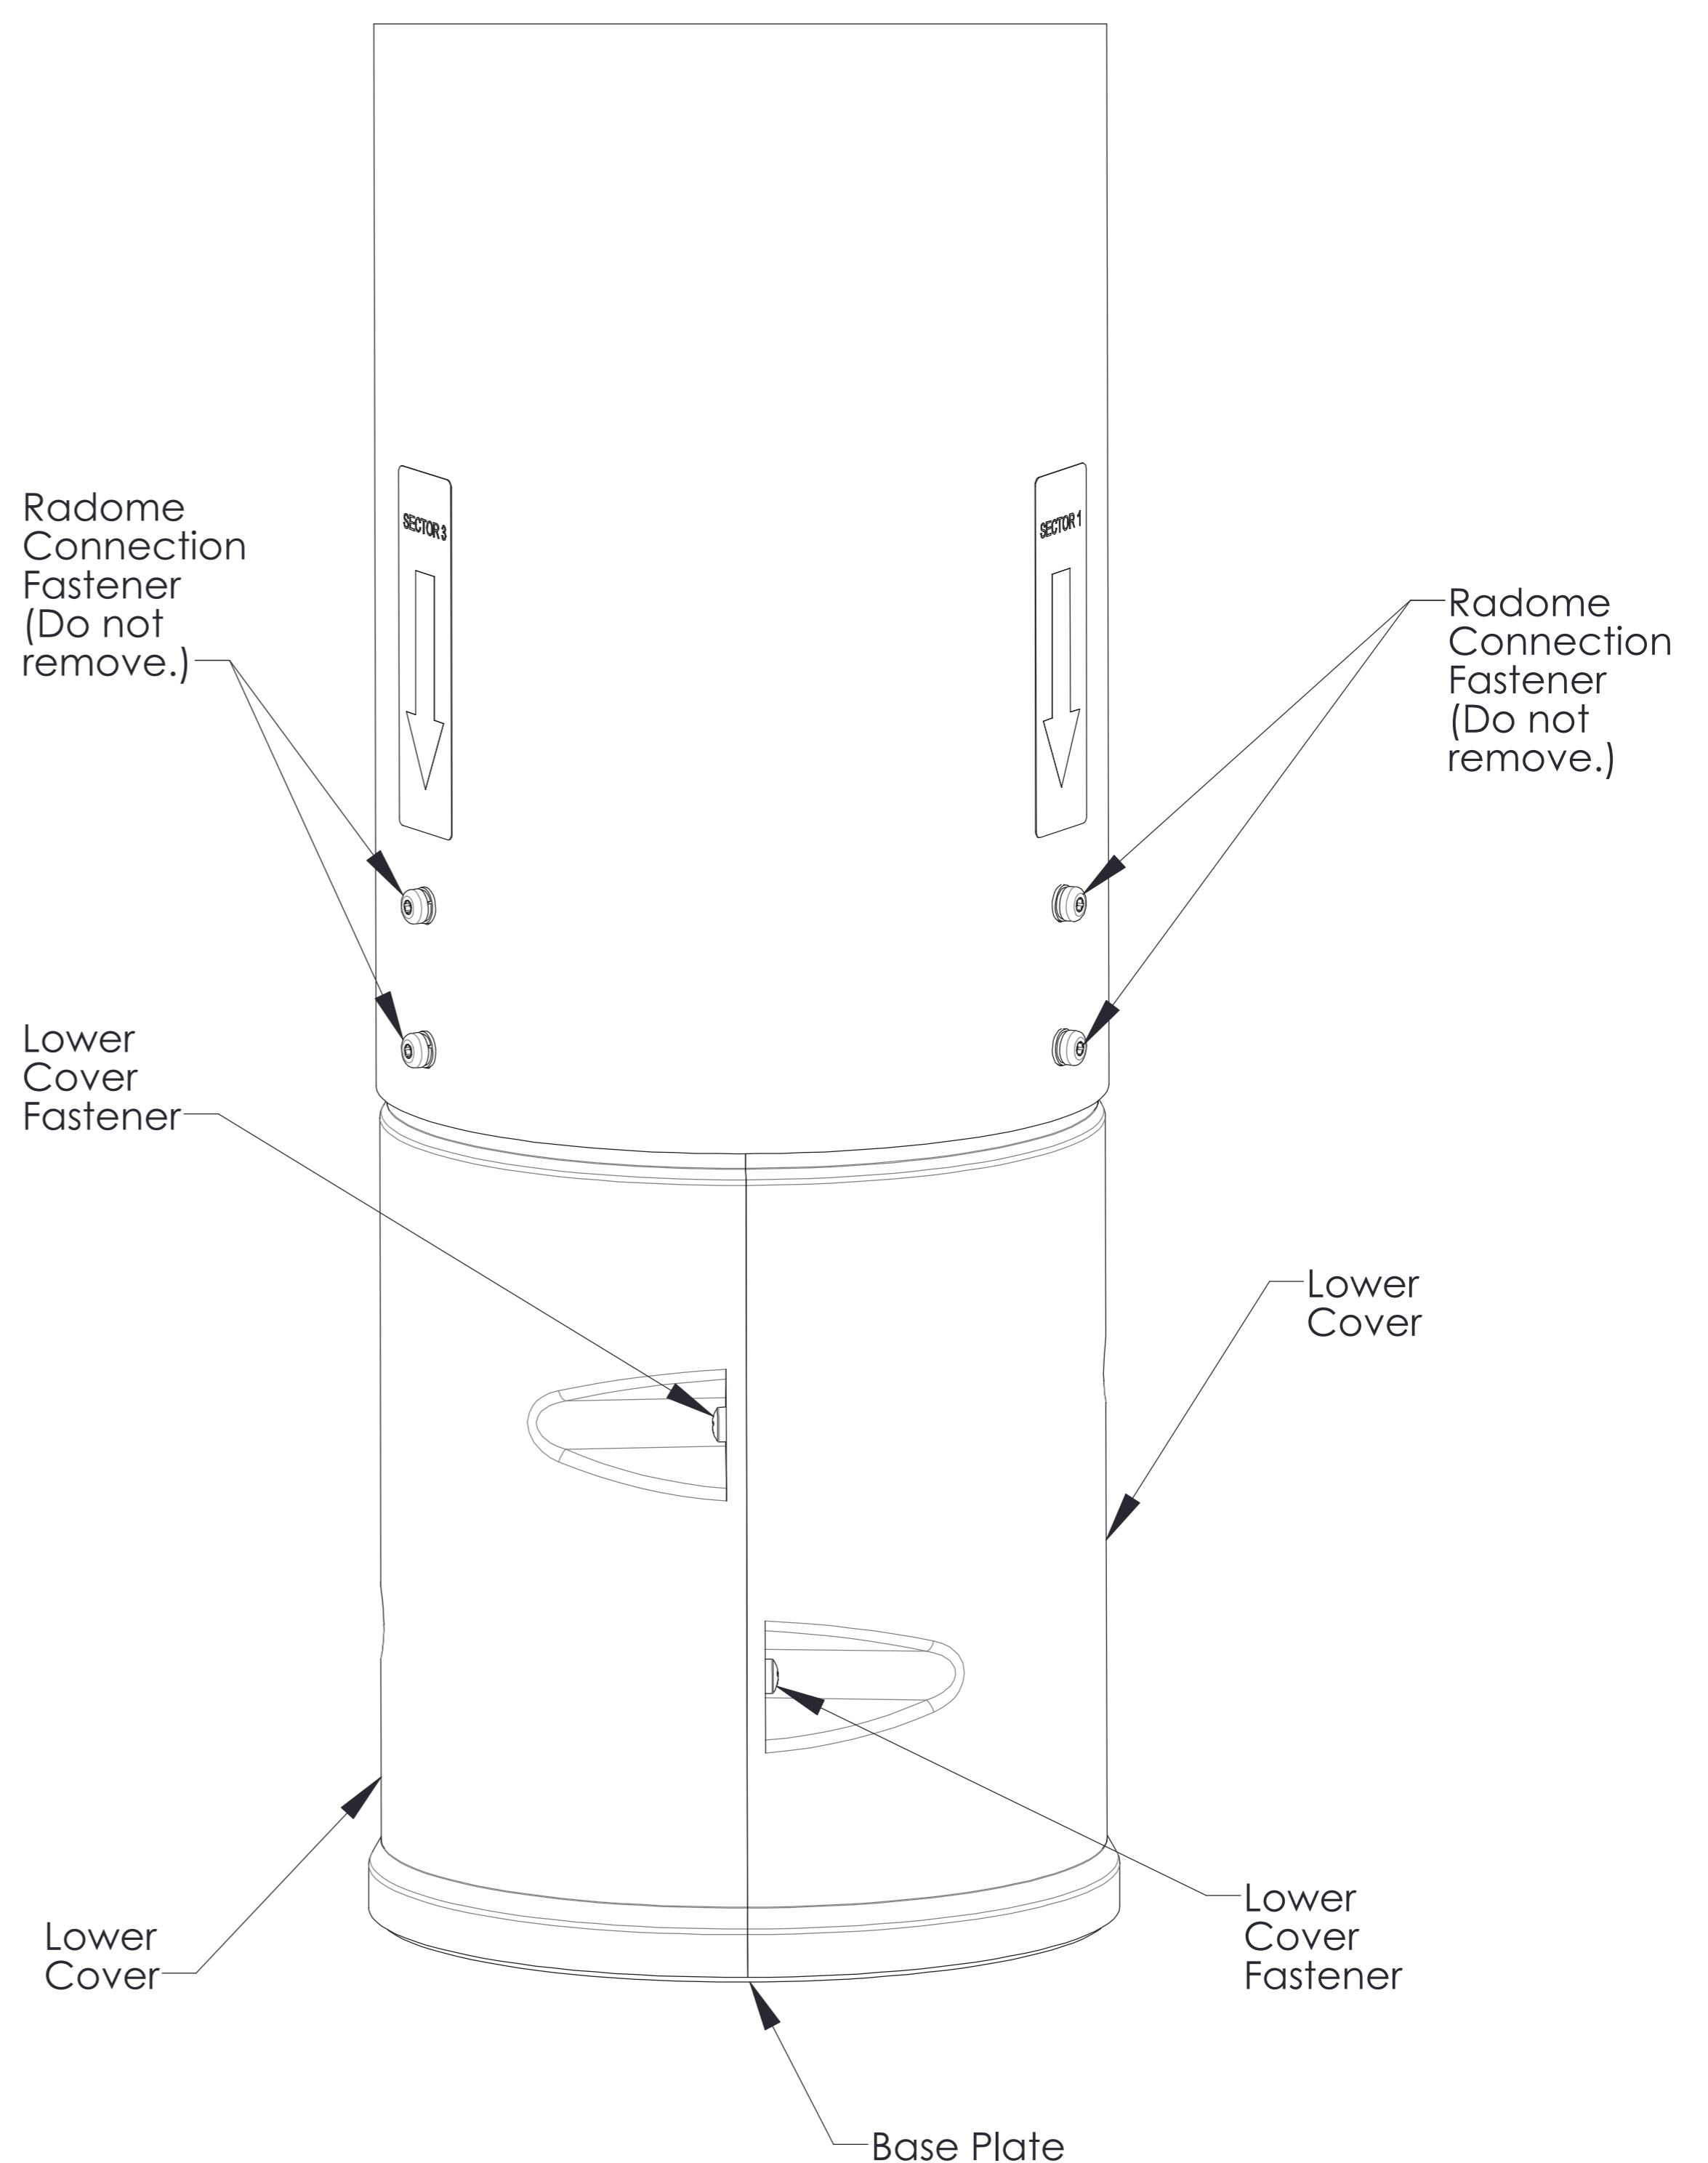

Figure 2. Removing Lower Cover.
1. Loosen the screws on the lower covers (Figure 2), and remove the lower cover from the antenna.